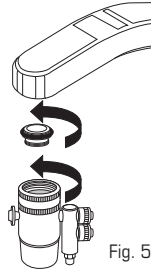

Fig. 5
- c) If the threads on your faucet are internal, **attach** the appropriate adapter with external threads to the end of your faucet (Fig. 5).